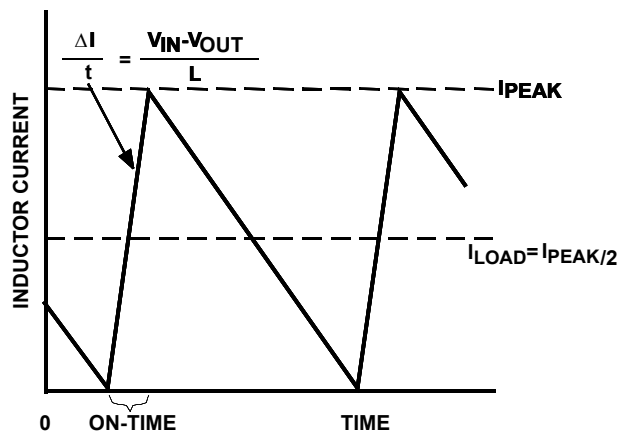

FIGURE 22. ULTRASONIC CURRENT WAVEFORMS
where K is the on-time scale factor (see "On-Time One-Shot (FS)" on page 12). The load-current level at which PFM/PWM crossover occurs, $I_{LOAD(SKIP)}$, is equal to half the peak-to-peak ripple current, which is a function of the inductor value (Figure 22). For example, in the ISL8112 typical application circuit with $V_{OUT1} = 5V$, $V_{IN} = 12V$, $L = 7.6\mu H$, and $K = 5\mu s$, switch over to pulse-skipping operation occurs at $I_{LOAD} = 0.96A$ or about on-fifth full load. The crossover point occurs at an even lower value if a swinging (soft-saturation) inductor is used.